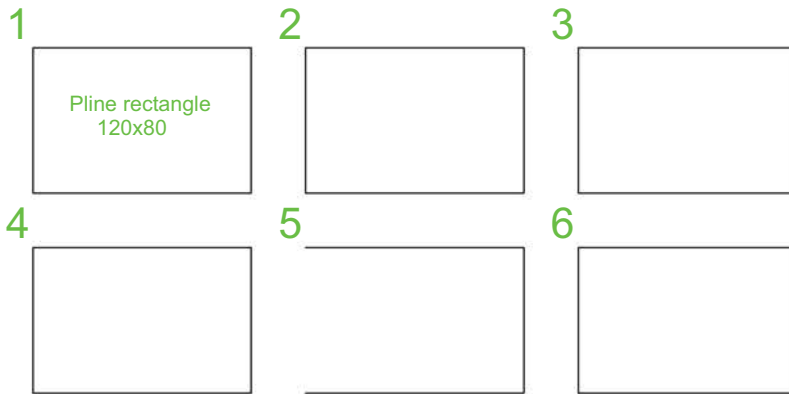

Fig. 4.19 Examples – Edit Polyline
1. With the **Polyline** tool, construct the outlines 1 to 6 of Fig. 4.19.